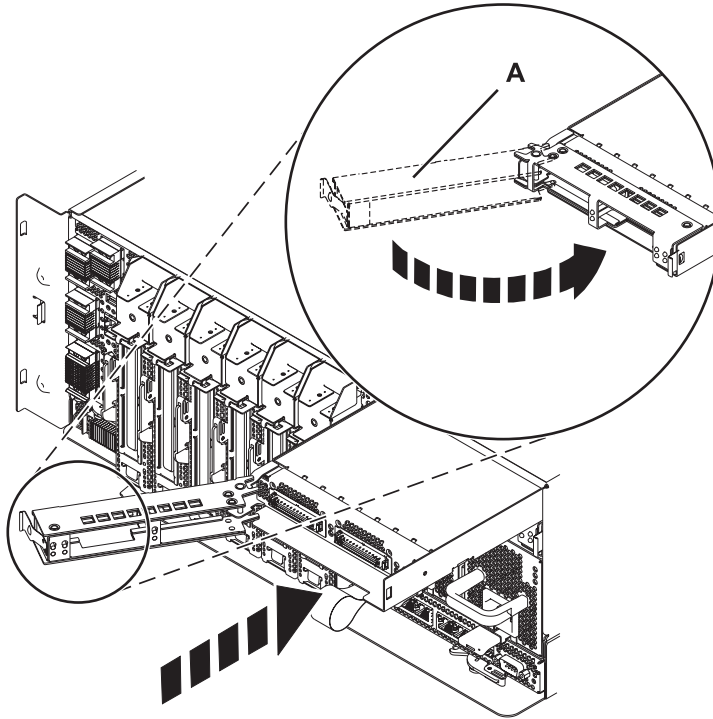

Figure 2. Installing a GX adapter in the system
11. Rotate the adapter cover in the direction shown in Figure 2 on page 8 and push it toward the card until the locking tab (A) snaps into place.